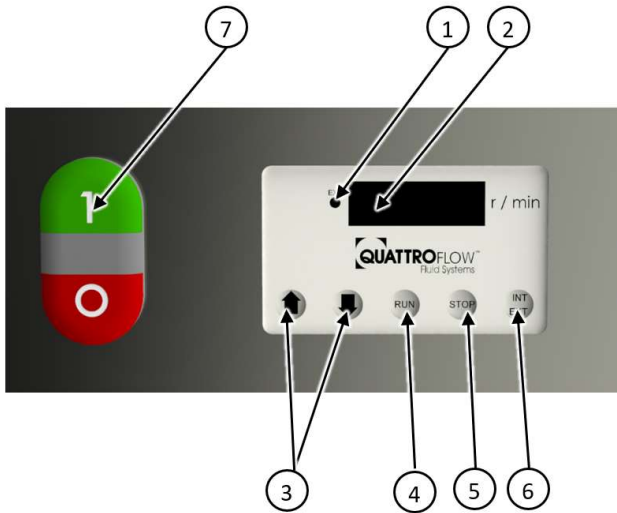

Figure 26 Control panel HT
- Manual operation (speed setting and start/stop) of the pump by the control panel (see Figure 26 Control panel HT on page 31)